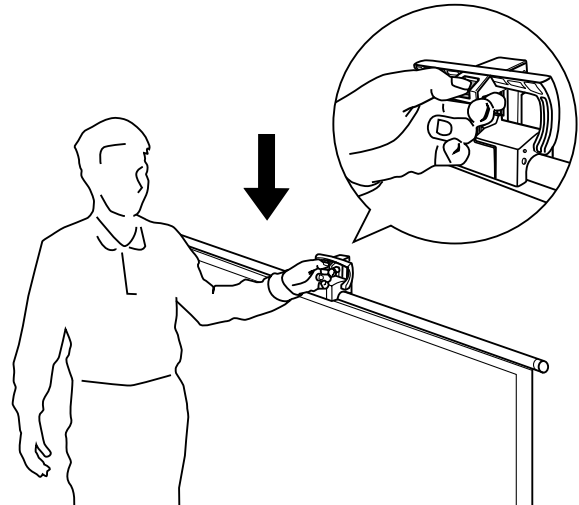

Figure 6
1. Lowering the screen. Press the screen release button and lower the screen slowly. Make sure to support the hook with your hand to lower the screen (Figure 6).